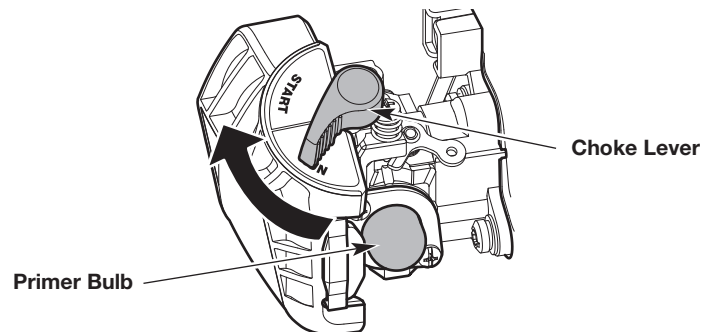

Fig. 4
3. Slowly press and release the primer bulb **10 times** (Fig. 4).
5. **DO NOT** squeeze the throttle control. Flip the choke lever clockwise until it clicks into the **START** position (Fig. 4).